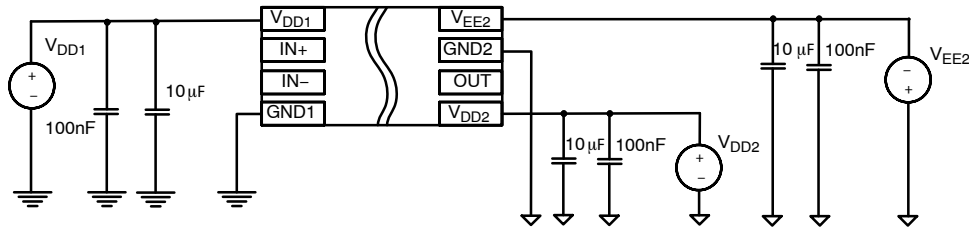

Figure 30. Bipolar Power Supply (Variant B)
- In bipolar power supply the driver is typically supplied with a positive voltage of 15 V at V_{DD2} and negative voltage -5 V at V_{EE2} (Figure 30). Negative power supply prevents a dynamic turn on through the internal IGBT/MOSFET input capacitance